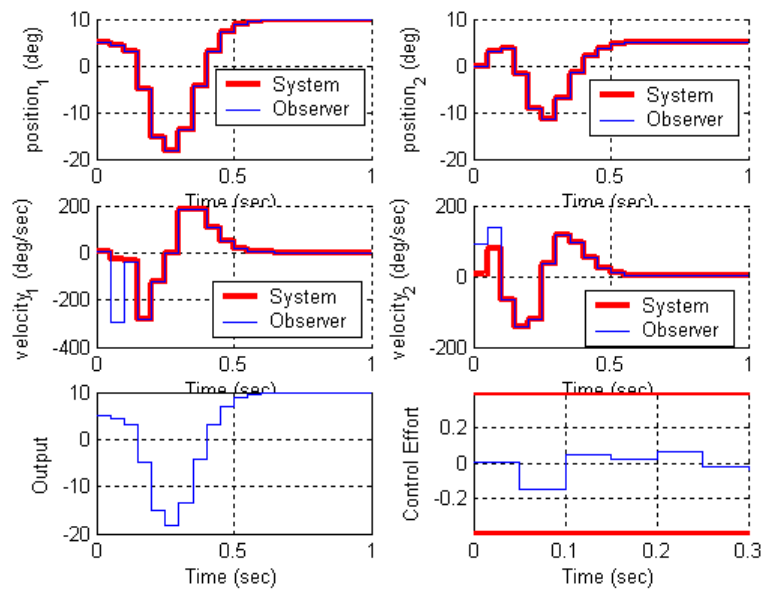

Figure 9. Results for problem 3d.
d) Same conditions as **b**, but now the positions of both disk 1 and disk 2 are known (the output is the position of the first disk). Place the state feedback poles all at 0.2 and the observer poles at $[0.01 \ 0.015 \ 0.02]$. For a 10 degree step input you should get the graph shown in Figure 9. Turn in your plot.